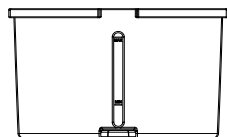

Fig. 5
For manual water filling, please note the level indicator in the front of the air cooler (Fig. 5).
1. Do not fill the water exceeding the maximum water level (Fig. 5).